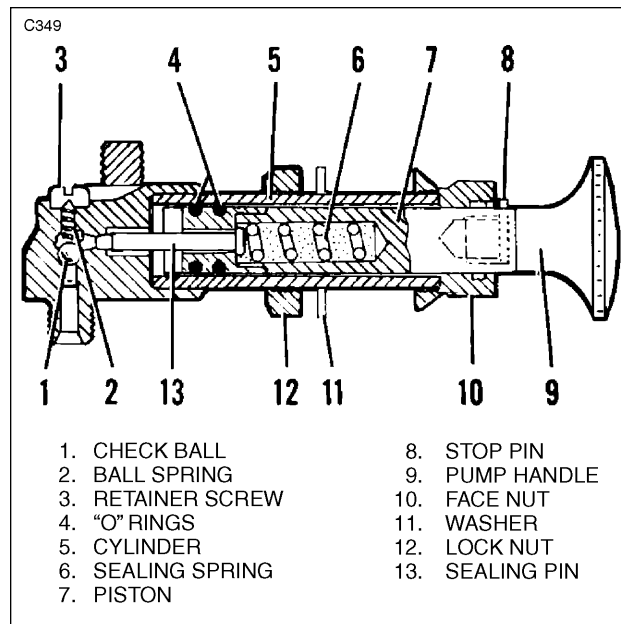

Figure 9-13. Engine Primer
### 9-51. REMOVAL OF ENGINE PRIMER. (Refer to Figure 9-13.)
### 9-52. DISASSEMBLY, CLEANING, AND ASSEMBLY OF ENGINE PRIMER. (Refer to Figure 9-13.)
- a. The primer may be disassembled after removal by removing the screws (3), springs (2), and check balls (1) from the end of the cylinder housing.
- c. Install new O-rings to the piston (7) and lubricate with light motor oil.
- d. Install the balls (1), springs (2), and screws (3) to the cylinder housing.
- e. Insert the pump handle (9) and piston (7) into the cylinder (5), finger tighten the knurled face nut (10).
- 9-53. INSTALLATION OF ENGINE PRIMER PUMP. (Refer to Figure 9-13.)
- a. Remove the pump handle (9) and piston (7) by unscrewing the knurled face nut (10), if previously installed.
- c. Insert the piston into the cylinder (5) and tighten the knurled face nut.
- d. Position the primer and tighten the locknut (12) on the cylinder behind the panel.